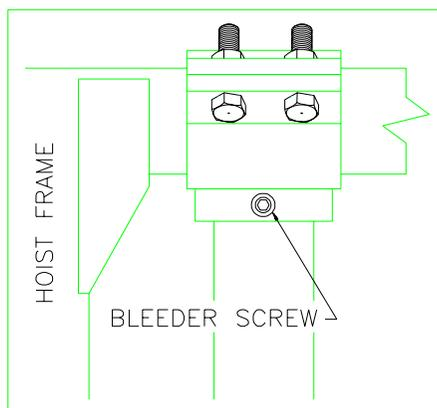

Figure 15: Bleeder Screw Location
14. **Single Acting Cylinders:** For single acting (power up only) cylinder hoists, complete the steps in this section. If the hoist is operated with no clearance problems then raise the hoist until fully extended. **Support the bed with a suitable overhead hoist to prevent lowering of the truck bed.** With the pump running, and the control knob in the raise position, loosen the bleeder screw (at the top of the cylinder) **one half turn** to allow the air to escape (see Figure 15).